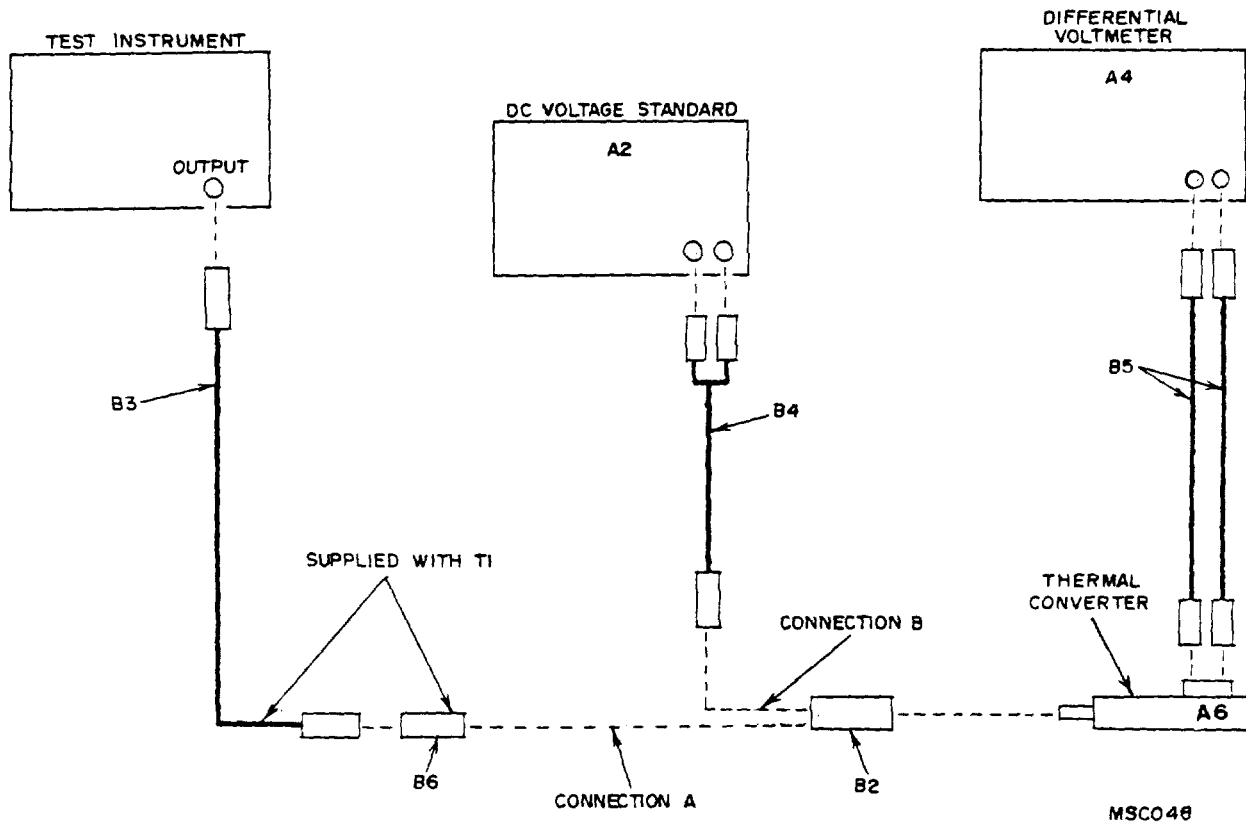

Figure 3. Frequency response - equipment setup
(1) Connect equipment as shown in figure 3, connection A.
(2) Position TI controls as listed in (a) through (c) below:
(3) Record differential voltmeter (A4) indication as V1.
(4) Connect equipment as shown in figure 3, connection B.
(5) Adjust dc voltage standard (A2) output until value of V1 is indicated on differential voltmeter. Record dc voltage standard indication.
(6) Adjust dc voltage standard to +3 percent of value recorded in (5) above. Record differential voltmeter indication as V2.
(7) Adjust dc voltage standard to -3 percent of value recorded in (5) above. Record differential voltmeter indication as V3.
(9) Reconnect equipment as shown in (fig. 3), connection A.
(10) Set FREQUENCY RANGE switch to each range POSITION, and at each range POSITION rotate the frequency dial throughout this range. Differential voltmeter will indicate between V2 and V3 for frequencies from 350 kHz to 100 MHz.